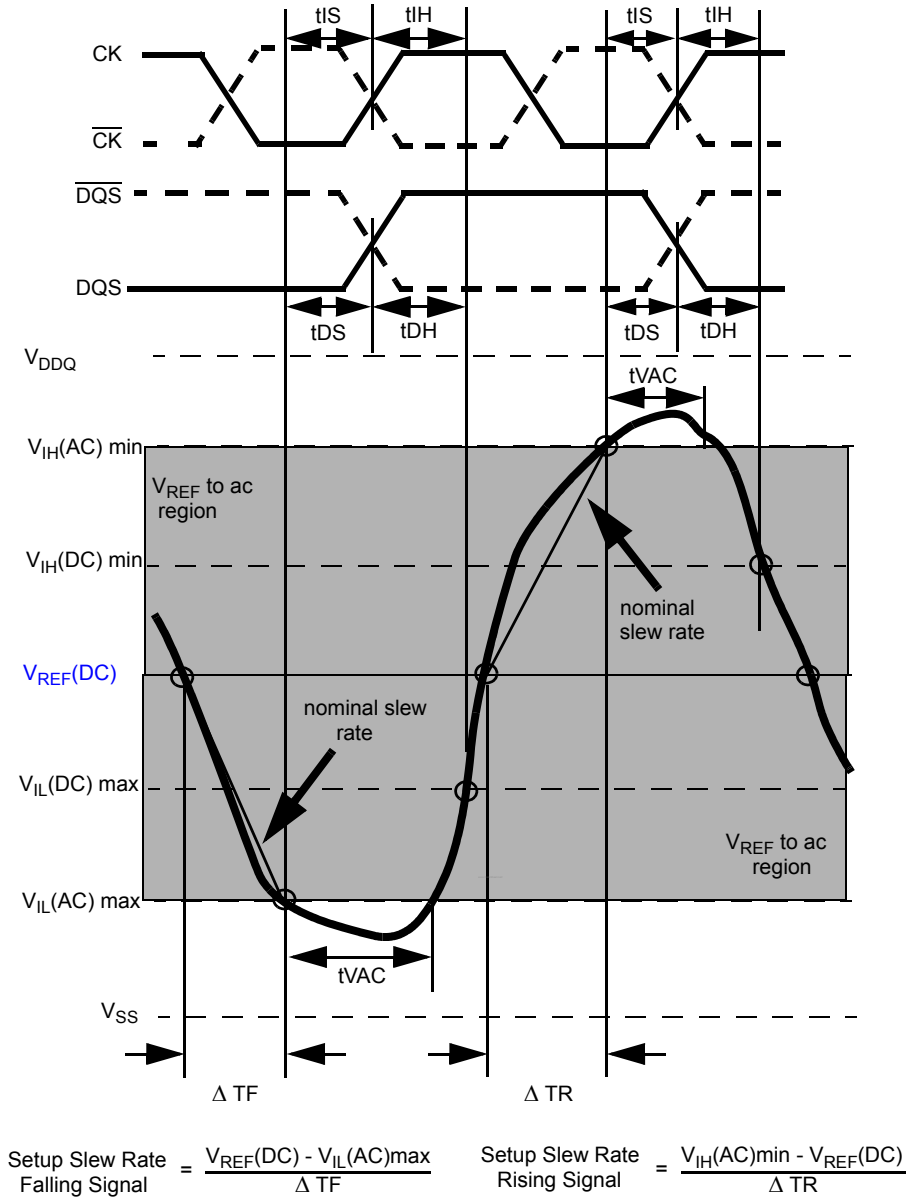

Figure 25. Illustration of nominal slew rate and t_{VAC} for setup time t_{DS} (for DQ with respect to strobe) and t_{IS} (for ADD/CMD with respect to clock).
Setup (tDS) nominal slew rate for a rising signal is defined as the slew rate between the last crossing of V_{REF}(DC) and the first crossing of V_{IH}(AC)_{min}. Setup (tDS) nominal slew rate for a falling signal is defined as the slew rate between the last crossing of V_{REF}(DC) and the first crossing of V_{IL}(AC)_{max} (see Figure 25). If the actual signal is always earlier than the nominal slew rate line between shaded 'V_{REF}(DC) to ac region', use nominal slew rate for derating value. If the actual signal is later than the nominal slew rate line anywhere between shaded 'V_{REF}(DC) to ac region', the slew rate of a tangent line to the actual signal from the ac level to dc level is used for derating value (see Figure 27).